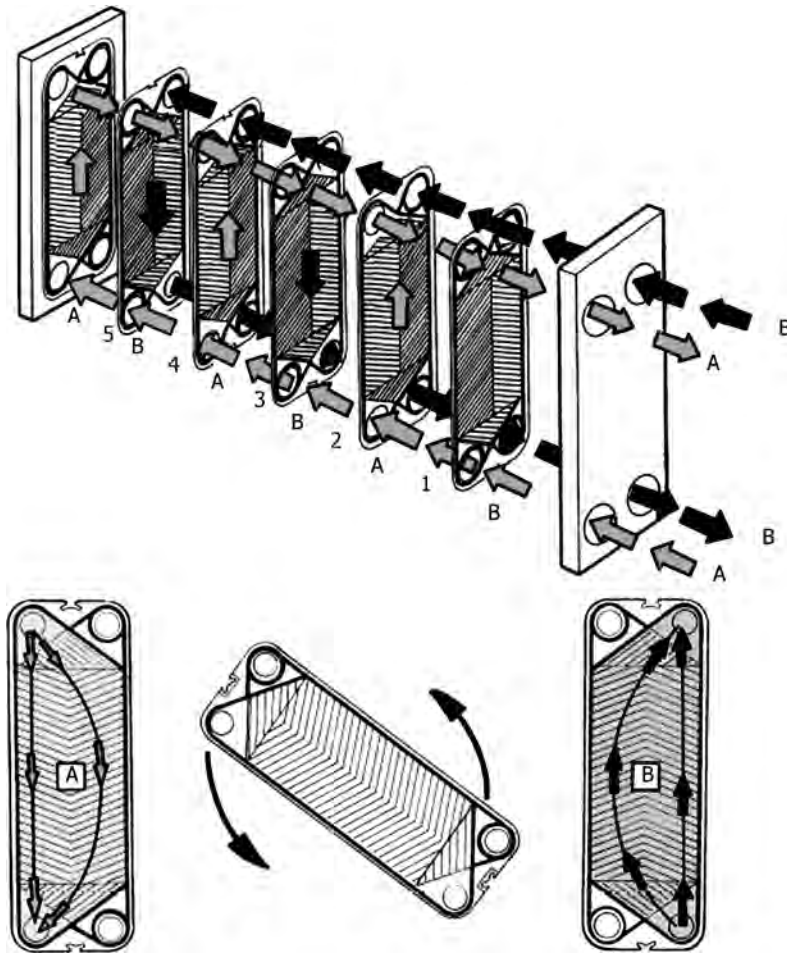

FIGURE 13.10 Flow patterns in a plate heat exchanger.
- Figure 13.10 illustrates the working of a plate heat exchanger.